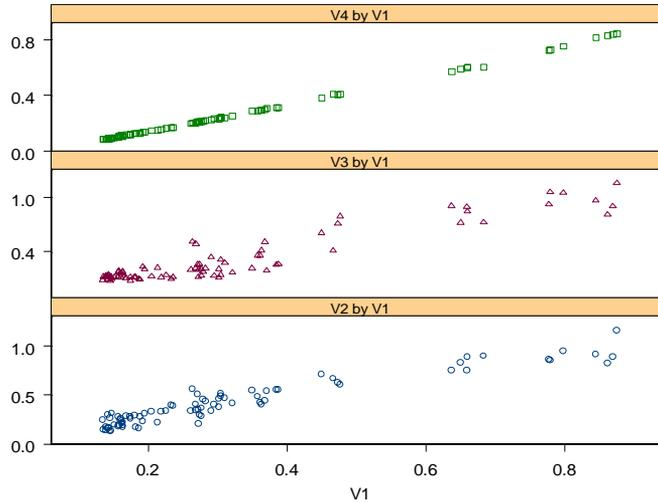

Figure 3.35: Multiple plots in separate panels for the sensors data.
- Remove the legend by selecting it and pressing the DELETE key. The resulting graph is shown in Figure 3.35.